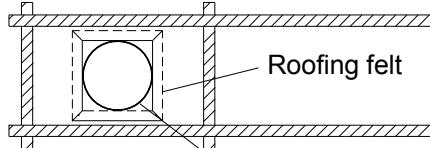

Fig. 2
2. The TUB is placed (collar upwards) under the roofing felt at the upper edge and along the sides, and on top of the roofing felt at the lower edge, fig 2 and 5.